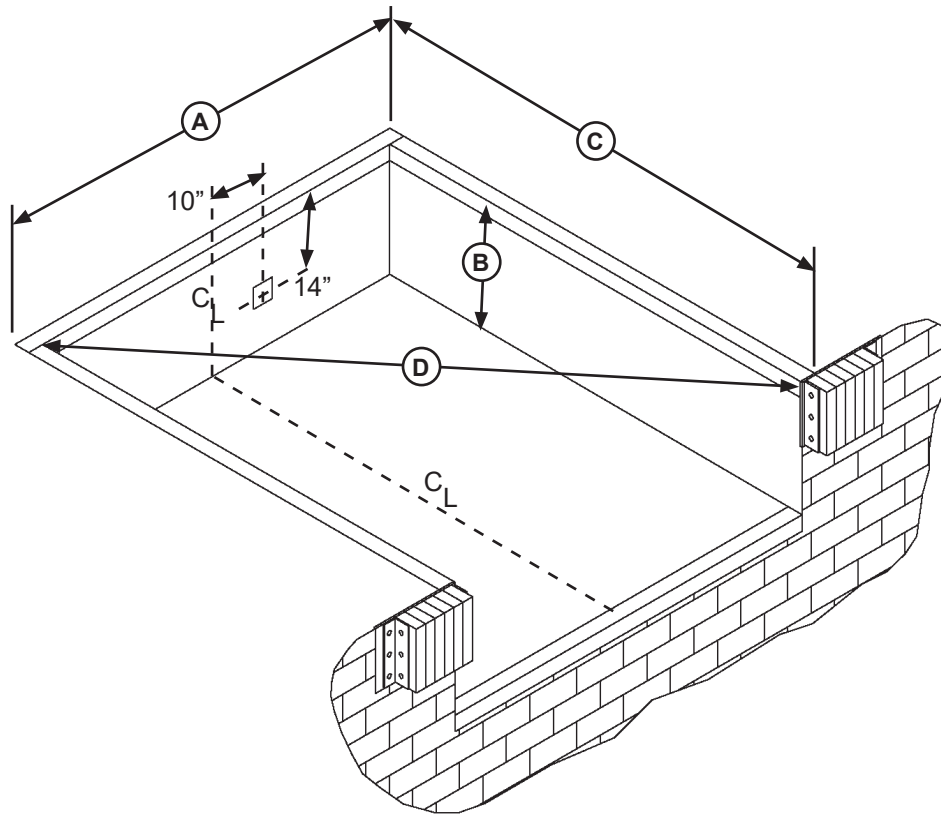

Figure 7
2. Check the entire dock leveler pit for proper construction according to approved/certified pit drawings. Make sure pit is square by making the following measurements (see Figure 7):